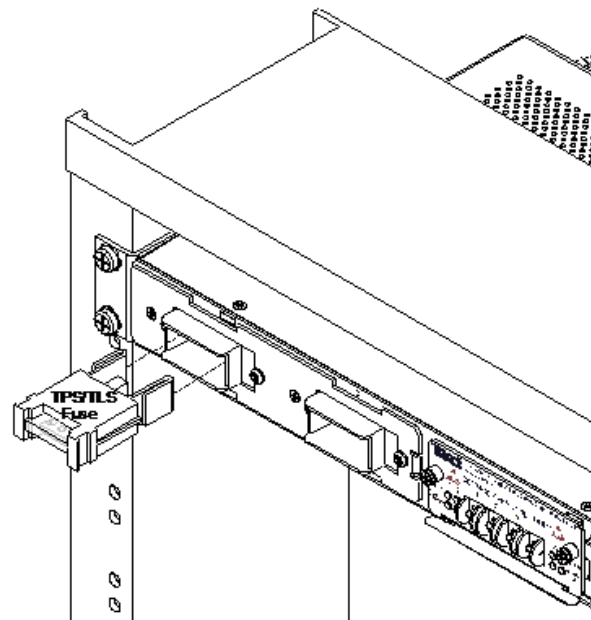

Fig. 9: Installing fuses
20. With input power on, firmly install each fuse in panel, as shown in Fig. 9.